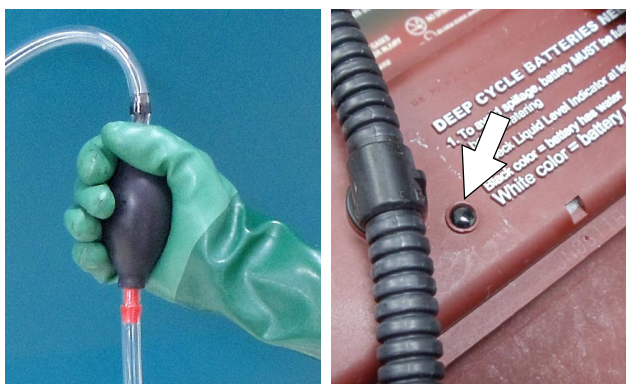

FIG. 140
5. Squeeze the bulb on the hand pump hose until firm (Figure 140). The level indicators will turn black when full.